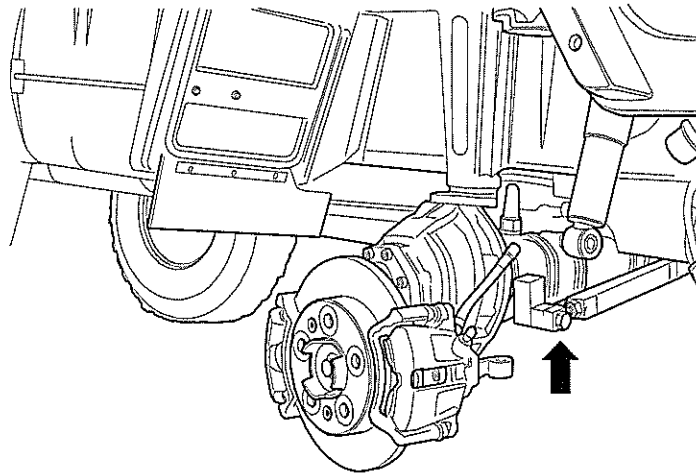

Fig 7 Portal hub removal tool
8.9 Drive wedge of press-off device (see Table 1, Ser 1) into area of anti-fatigue clamping bolts until stop. Mount other end of tool onto ball head of axle and fix securely (see Fig 7).